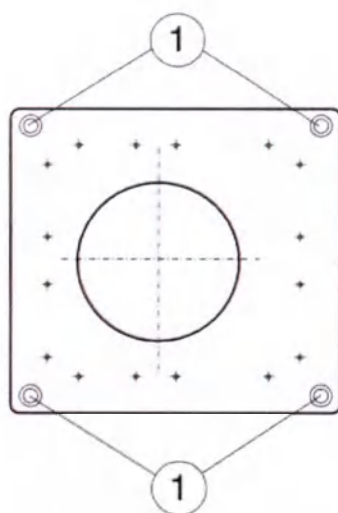

Fig. 11: Table installation plate
A different drill jig is required for the table. This is included in the pre-installation kit for the table. Insert the drill jig into the 20 mm mounting holes Fig. 11 (1) in the mounting plate.